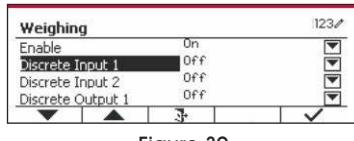

Figure 39
- The Weighing submenu is now displayed. Select the list item and press the button corresponding to the  icon to change the setting as desired. After completion of I/O setup, press the softkey corresponding to the  icon to return to the main application screen. (See Figure 39)